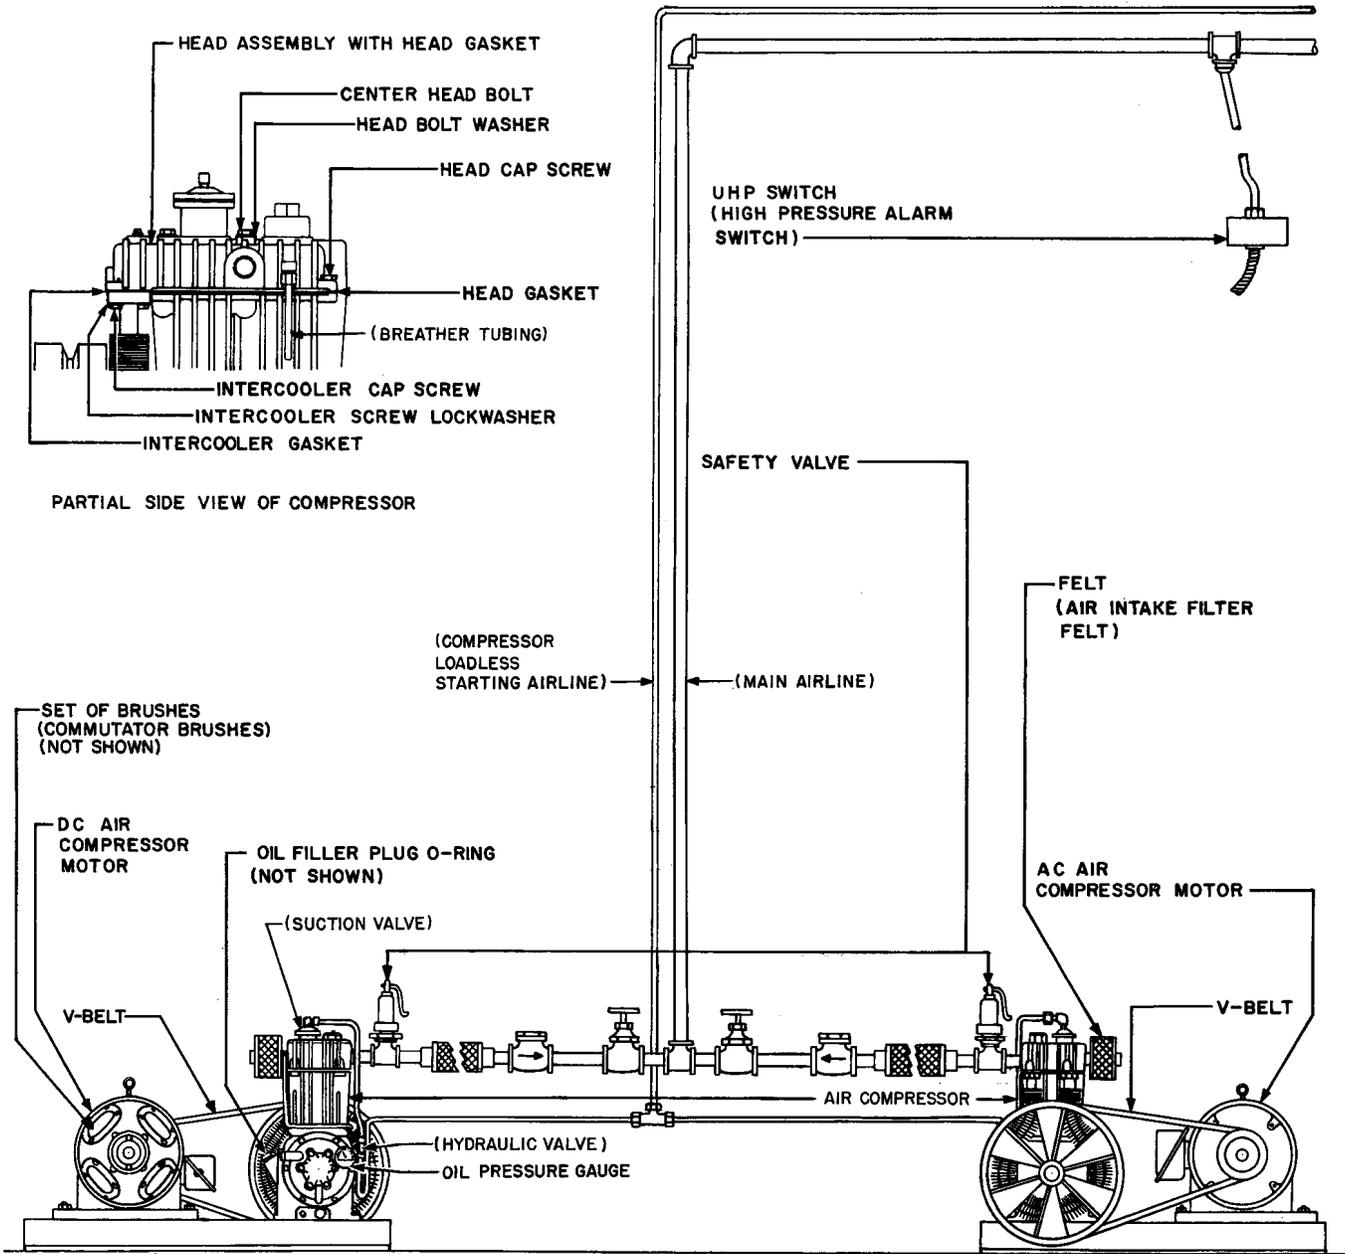
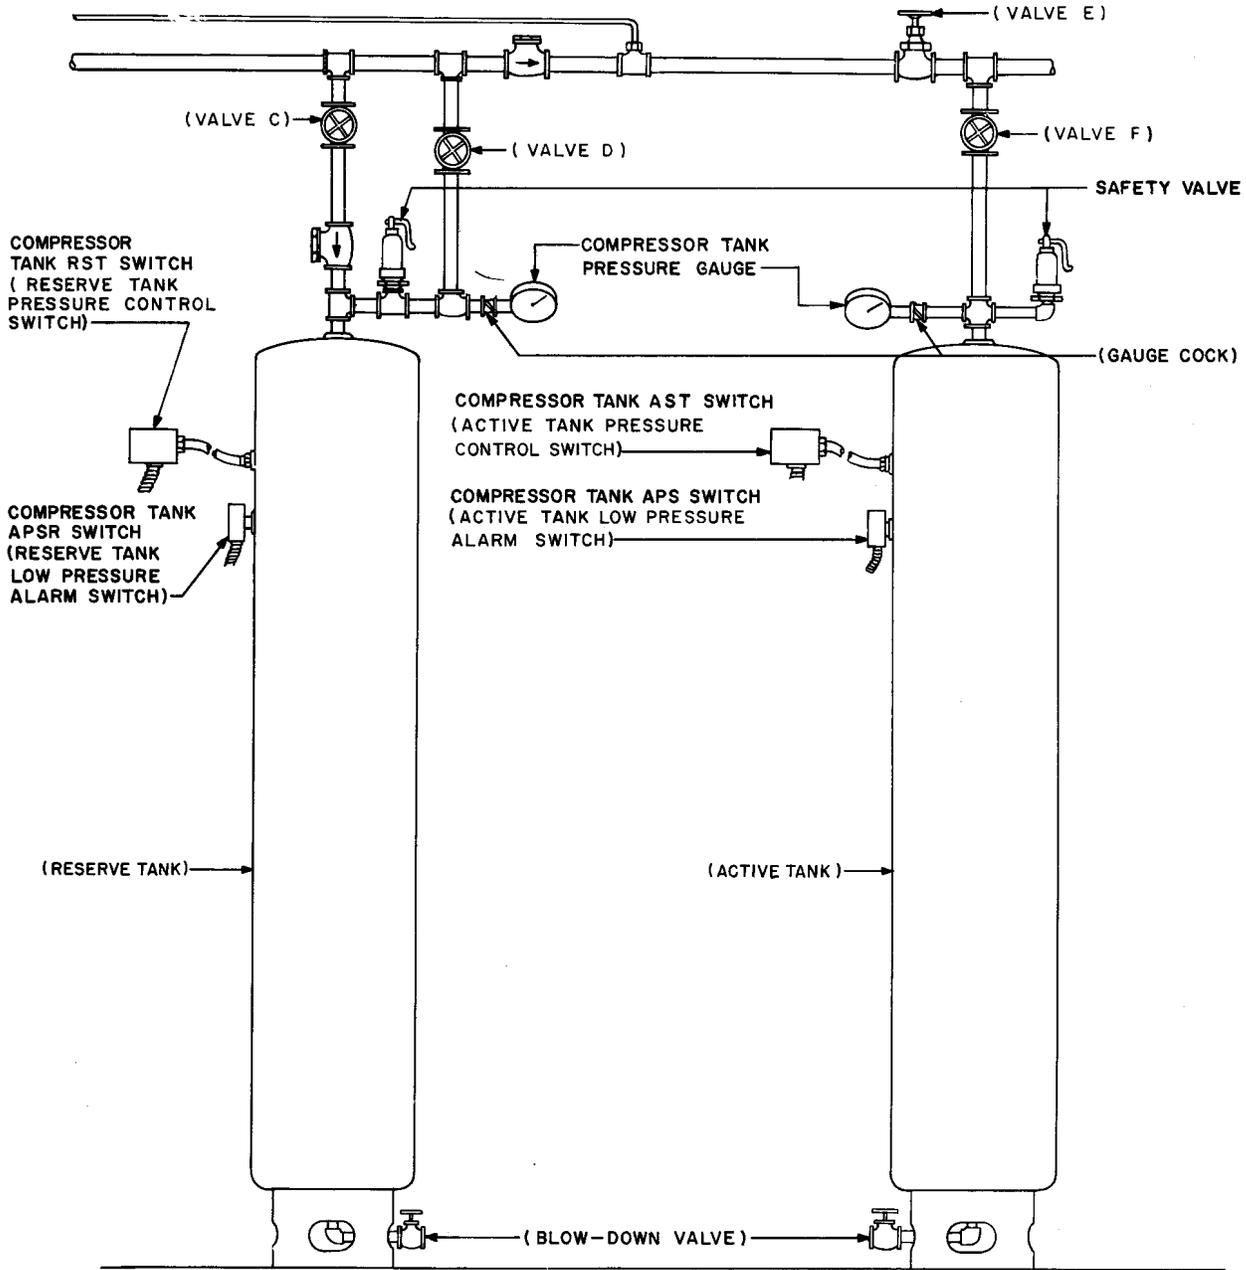

Fig. 1 – Typical Air-Starting Equipment — AC and DC Motor Air Compressors and High Pressure Alarm Switch (KS-15777, L51 Air-Starting Equipment Shown)
Fig. 2 - Typical Air-Starting Equipment - Active and Reserve Air Tanks and Associated Equipment (KS-15777, L51 Air-Starting Equipment Shown)
3.06 To release the air pressure in the reserve tank or from the main air line between the compressors and the reserve tank, remove both compressors from service as covered in 3.05 and open the reserve tank blow-down valve. To release the air pressure from the active tank, remove both compressors from service as covered in 3.05. Close F valve and open the active tank blow-down valve (Fig. 2). To silence the audible alarm which will operate upon release of air pressure in either tank, press the AUDIBLE ALARM SILENCING SWITCH button on the diesel engine main control cabinet.
3.08 Air Intake Filter Felt: Fig. 1
3.09 Compressor Drive Belts: Fig. 1
3.10 Compressor Oil Pressure Gauge: Fig. 1
- (1) Remove the compressor from service as covered in 3.05.
- (2) Remove the gauge from the crankcase using the R-1770 wrench. Mount the new gauge with the wrench. Do not apply force to the gauge case as this may damage the mechanism. Wipe off any oil on the surfaces adjacent to the gauge using a KS-14666 cloth.
3.11 Compressor Head Assembly, Gaskets, and Mounting Screws: Fig. 1
- (1) Remove both compressors from service as covered in 3.05. Close E valve and make sure that D valve is closed (Fig. 2).
- (2) Close the valve associated with the compressor and release the air pressure in the discharge pipe by manually operating the safety valve.
- (3) Using the R-2512 wrench, slowly loosen the nut connecting the tubing to the compressor suction valve. This will release the air pressure in the compressor loadless starting air line. When the pressure is released, disconnect the tubing from the suction valve. Loosen the nut at the top of the hydraulic valve and swing the tubing above the hydraulic valve away from the compressor cylinder head. ↴
- Γ (4) Unscrew and remove the air intake filter. Disconnect the breather tubing from the side of the cylinder head (Fig. 1 – Partial Side View of Compressor).
- (5) Separate the union in the discharge pipe using the 15-inch monkey wrench and the R-1289 wrench. Remove the discharge pipe from the cylinder head with the R-1539 wrench.
- (6) Using the R-2698 wrench, remove the intercooler cap screws from one end of the cylinder head, the head cap screws from the other end of the head, and the four center head bolts from the top of the head. Carefully separate the intercooler flanges from the head and the head from the cylinder block using the 4-inch E screwdriver to pry them apart if necessary. Remove the head assembly, head gasket, and intercooler gaskets. If the head assembly is to be replaced, transfer the tubing fittings from the old to the new head.
- (7) Clean all surfaces between which gaskets will be mounted using a KS-14666 cloth moistened with KS-7860 petroleum spirits and then a dry cloth. Take care not to get dirt into the cylinders and intercooler tubing.
- (8) Place new gaskets on the compressor cylinder block and intercooler flanges. Mount the head on the block, tighten the head bolts and screws and intercooler screws in successive steps.
- (9) Mount the discharge pipe in the cylinder head and reconnect the union. Connect the tubing to the suction valve and tighten the nut at the top of the hydraulic valve. Connect the breather tubing to the side of the cylinder head. Remount the air intake filter after replacing the filter felt as covered in 3.08.
- (10) Open E valve (Fig. 2) and the valve associated with the compressor. Reduce the air pressure in the reserve tank to at least 195 psi by opening the blow-down valve. This will permit running the compressor long enough to heat up the cylinder head for final tightening of the bolts and screws. Restore the compressor to service as covered in 3.05 and recharge the tank to 250 psi. When the compressor head is hot, further tighten the cylinder head bolts and screws if necessary.
Γ3.12 Compressor: Fig. 1
- (2) Close the valve associated with the compressor to be replaced and release the pressure in the discharge pipe by manually operating the safety valve. Unscrew and remove the air intake filter.
- (3) Using the R-2512 wrench, slowly loosen the nut connecting the compressor loadless starting air line to the bottom of the hydraulic valve mounted on the compressor crankcase. This will release the air pressure from the line. When the pressure is released, disconnect the tubing from the bottom of the valve.
- (4) Separate the union in the discharge pipe using the 15-inch monkey wrench and the R-1289 wrench. Remove the discharge pipe from the cylinder head with the R-1539 wrench.
- (5) Remove the compressor drive belts as covered in 3.09.
- (6) Remove the compressor mounting screws with the R-2698 wrench and remove the compressor.
- (7) Mount the new compressor and tighten the mounting screws. Fill the crankcase with oil in accordance with the lubrication requirement.
- (8) Mount the discharge pipe in the cylinder head and connect the union. Connect the loadless starting air line to the hydraulic valve on the crankcase. Mount the air intake filter after replacing the filter felt as covered in 3.08. Mount the drive belts as covered in 3.09(4).
- (9) Open E valve (Fig. 2) and the valve associated with the compressor. Reduce the air pressure in the reserve tank to at least 195 psi by opening the blow-down valve. This will permit running the compressor long enough to heat up the oil in the crankcase in preparation for adjusting the oil pressure. Restore the compressor to service as covered in 3.05 and charge the tank to 250 psi. Adjust the oil pressure as covered in the lubrication requirements.
3.13 DC Motor Brushes: Fig. 1
3.14 Motor: Fig. 1
- (1) **Compressor Safety Valve:** Fig. 1 – Remove the compressor associated with the safety valve from service as covered in 3.05. Close the valve associated with the compressor and release the air pressure by operating the safety valve manually. Using the R-2652 wrench, remove the valve and substitute the new valve. Check the valve in accordance with the requirement covering operation of safety valves.
- (2) **Tank Safety Valve:** Fig. 2 – Release the air pressure in the tank associated with the safety valve as covered in 3.06. Using the R-2652 wrench, remove the valve and substitute the new valve. Close the tank blow-down valve and in the case of the active tank, open F valve (Fig. 2). Recharge the tank using the ac motor compressor on automatic control. Check the valve in accordance with the requirement covering operation of safety valves.